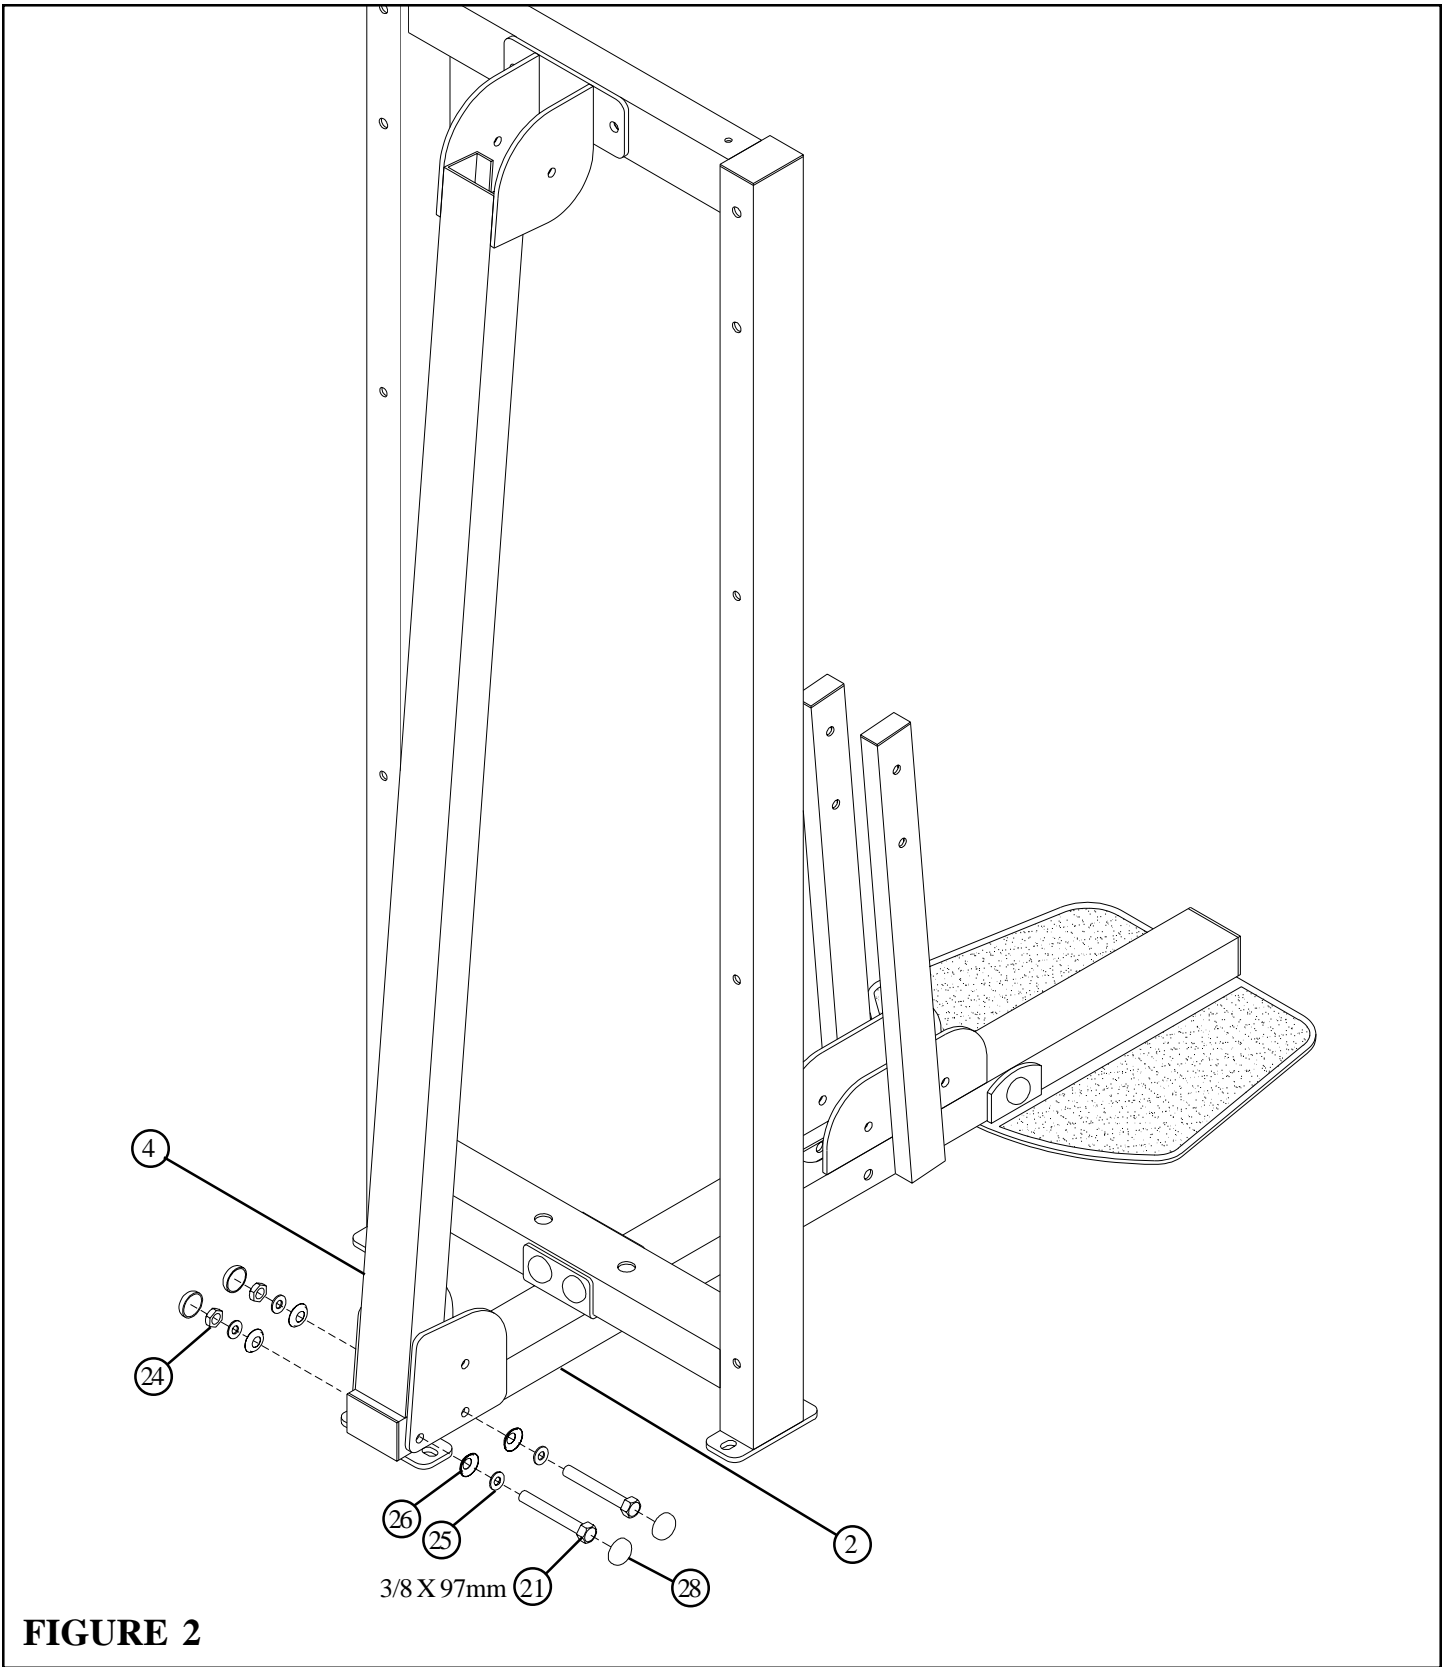

FIGURE 2
- **LOOSELY** assemble the REAR UPRIGHT (4) to the BASE FRAME (2) using four RH CAPS (28), two 3/8 X 97mm BOLTS (21), four 3/8" SAE WASHERS (25), four 3/8" RH WASHERS (26) and two 3/8" LOW HEIGHT LOCK NUTS (24) as shown in FIGURE 2.
- Route the BI/TRI CABLE (29) around one 4-1/2" PULLEY (7) and **SECURELY** assemble the 4-1/2" PULLEY (7) to the BRACKET on the HEAD PLATE (12) using four RH CAPS (28), two 3/8 X 43mm BOLTS (16), four 3/8" SAE WASHERS (25), four 3/8" RH WASHERS (26) and two 3/8" LOW HEIGHT LOCK NUTS (24) as shown in FIGURE 2. **(NOTE: Make sure CABLE runs over the retaining bolt.)**